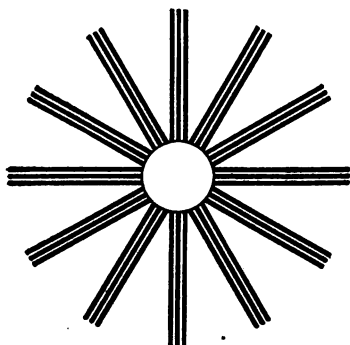

FIG. 100.—LINES FOR DETECTING ASTIGMATISM
**122. Astigmatism.** This is another common defect in eyes. It manifests itself in one's inability to see clearly at the same time all the lines in a diagram like Figure 100. The cause of